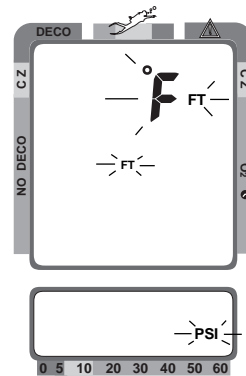

Fig. 26 - Set Units of Measure
- the Units of Measure icons appear flashing (Fig. 26)